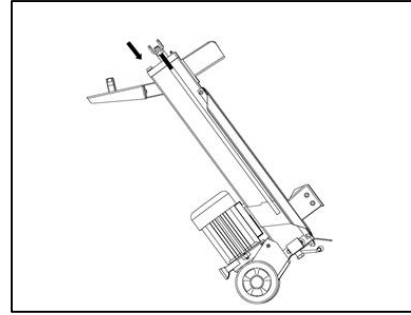

Fig. 12
4. Tilt the log splitter onto the motor side (Fig. 12).